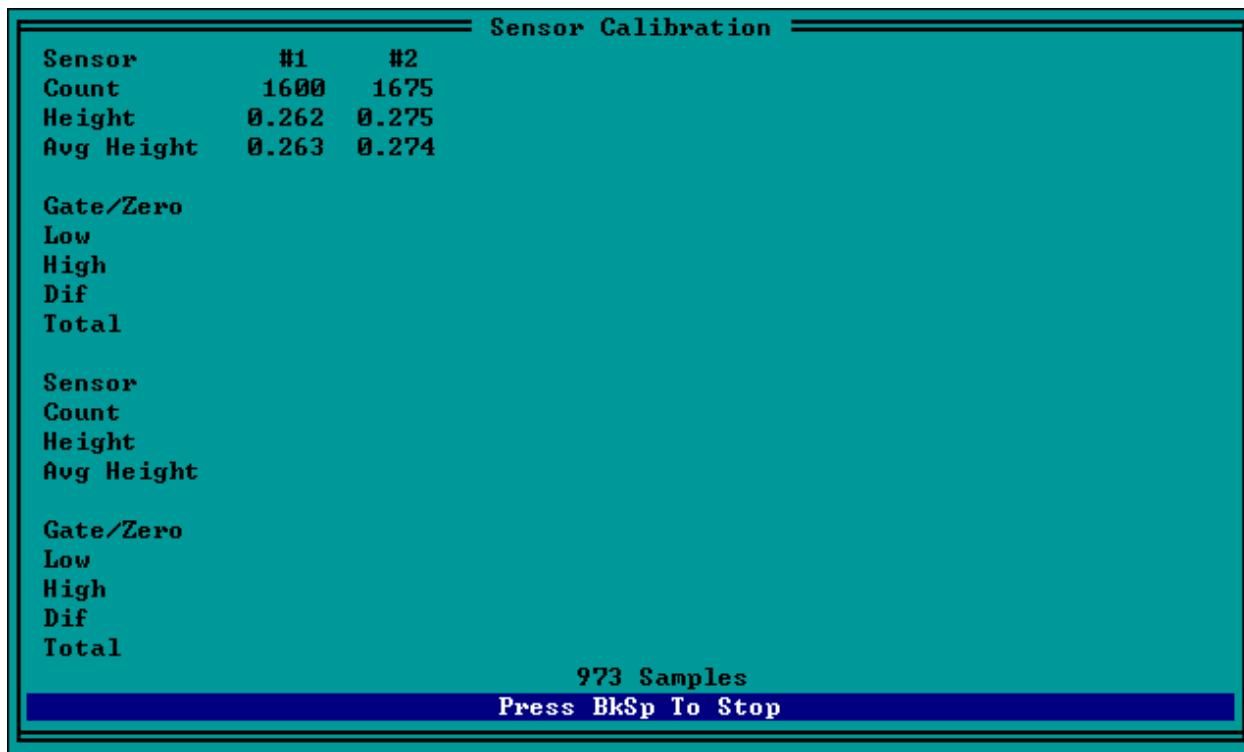

Figure 3-1. MDR Software Sensor Calibration Screen.
8. In the Calibration Sensor Menu, highlight 'Go' and press the Enter key. The monitor will display the sensor calibration screen similar to Figure 3-1.